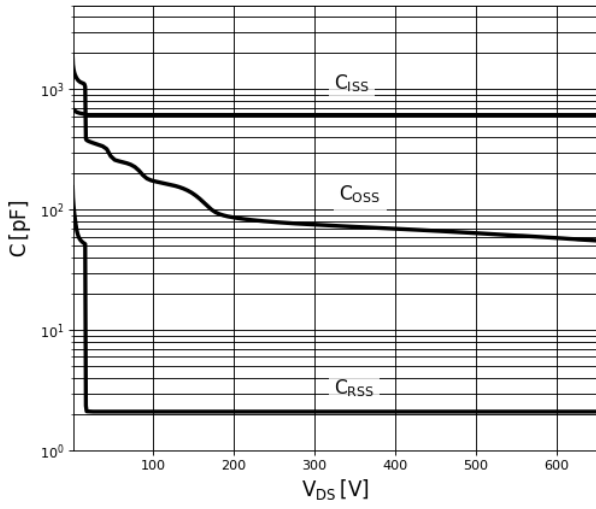

Figure 5. Typical Capacitance
f. Dynamic on-resistance; see Figures 5 and 6 for test circuit and conditions